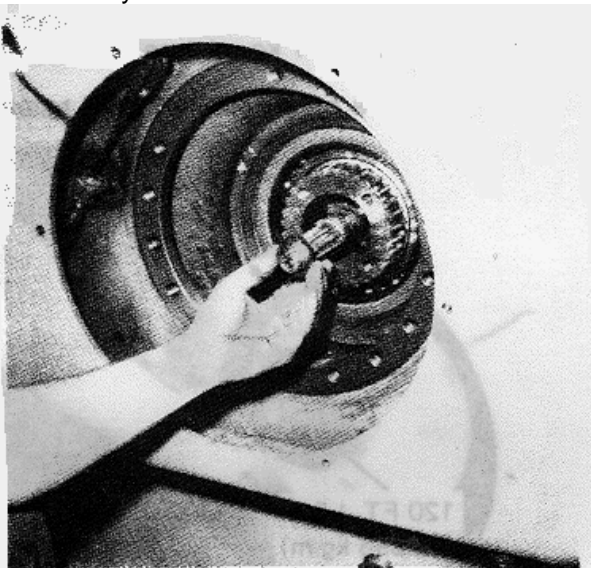

FIGURE 7-93.
d. Install snap ring on brake shaft (C350B only) (see figure 7-93).